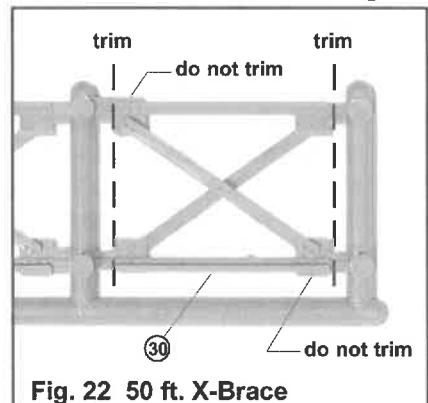

Fig. 22 50 ft. X-Brace
**Note:** On 50' X-braces there is a spacer that looks similar to a gate on two diagonal corners. Do not cut the spacers off when trimming off the four gates. See fig. 22.